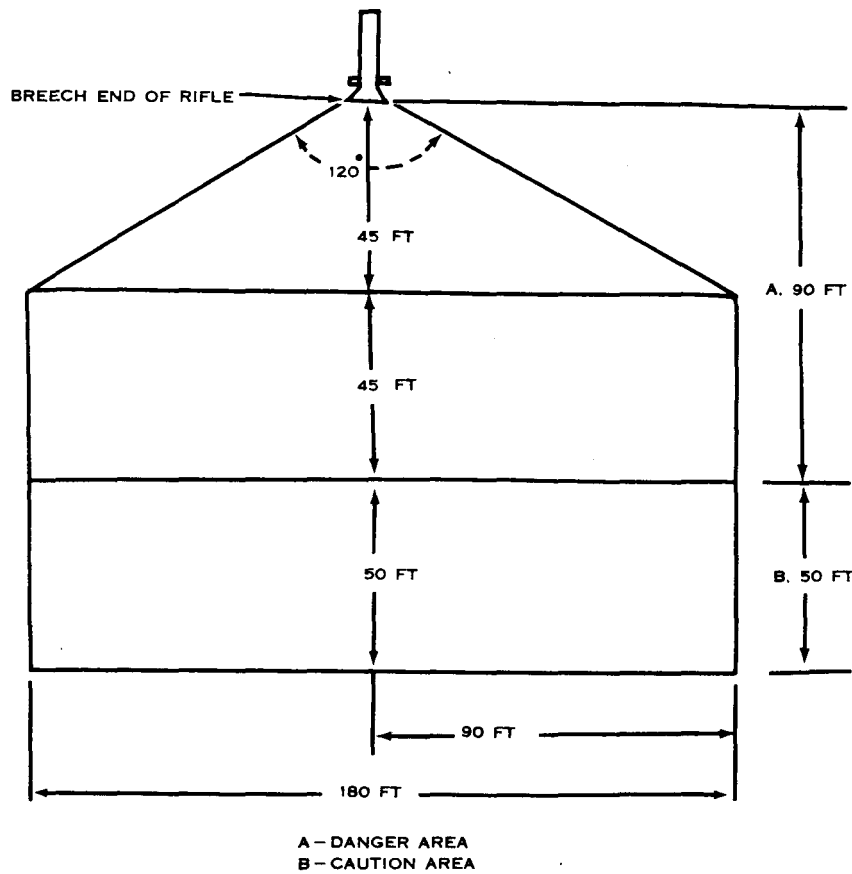

Figure 32. Backblast area.
b. The backblast area is pentagonal in shape (fig. 32) with the apex at the breech. It extends 140 feet to the rear and has a 180-foot base, 90 feet on either side of the bore axis extended. It is divided into two areas: A danger area and a caution area. In the danger area, which extends 90 feet to the rear of the breech, serious casualties or fatalities are likely to occur due to blast and flying debris. In the caution area an individual is relatively safe providing he does not face the breech. This area extends an additional 50 feet to the rear of the danger area. It is habitually kept clear during training situations.